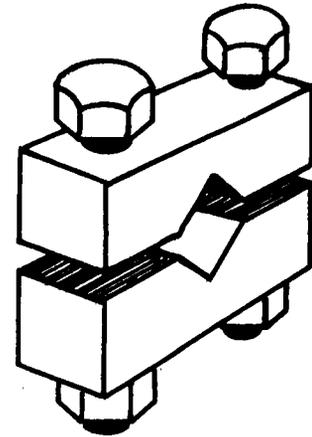

Figure 9-9. Drive clamps
(3) Drive Clamps. Drive clamps (Figure 9-9) used in driving casing or pipe are attached to the square of the drill stem. When driving the clamps, strike the drive head or coupling at the top of the casing. The stem acts as a guide through the head and furnishes the weight needed for driving.